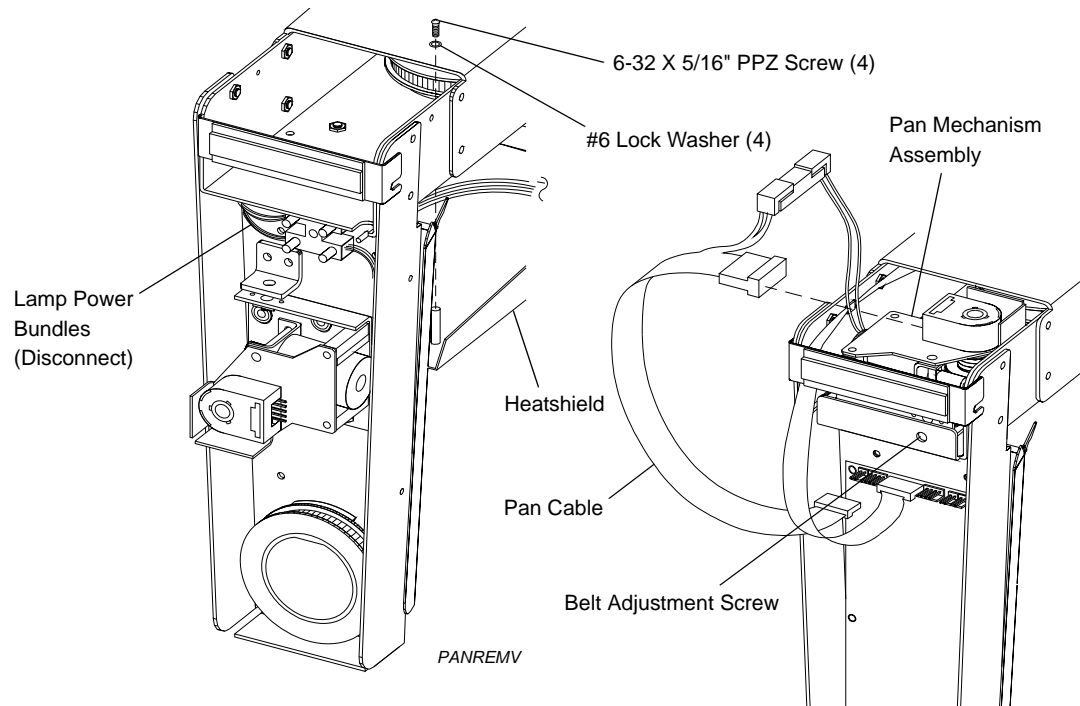

Figure 2-27: Disconnecting Pan Mechanism Assembly Wires
- Step 3. At yoke top cross member, using #2 Phillips screwdriver, remove four 6-32 X 5/16" PPZ screws and four #6 lock washers securing heatshield to cross member, and remove heatshield. **Figure 2-27.**